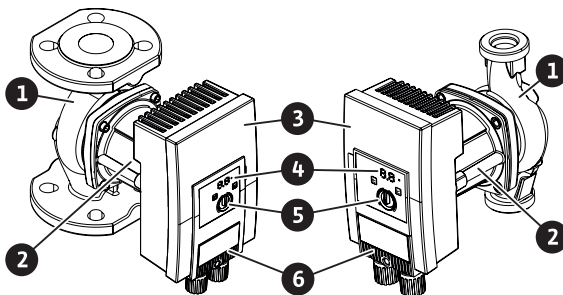

Fig. 1: Pump overview
- If necessary, use hoisting gear with sufficient bearing capacity (Fig. 1).
There is a control module (Fig. 1, item 3) on the motor housing, which controls the pump and provides an SSM interface. Depending on the chosen application or control function, speed or differential pressure will be controlled. For all differential pressure control functions, the pump continuously adapts to the system's changing power requirements.